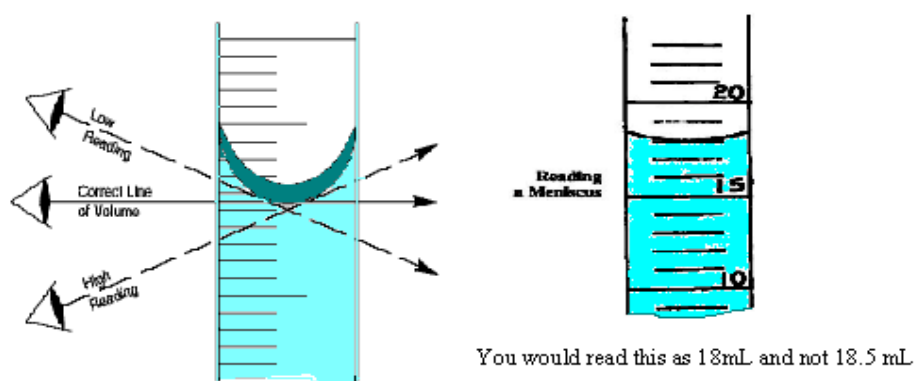

Figure 1.2: Proper technique for reading a burette or a graduated cylinder
- b) When the volume of water and water-solutions are read in a container, you will notice that there is a curved surface at the top of the liquid. This is called the meniscus. Always read the bottom of the meniscus (Figure 1.2).